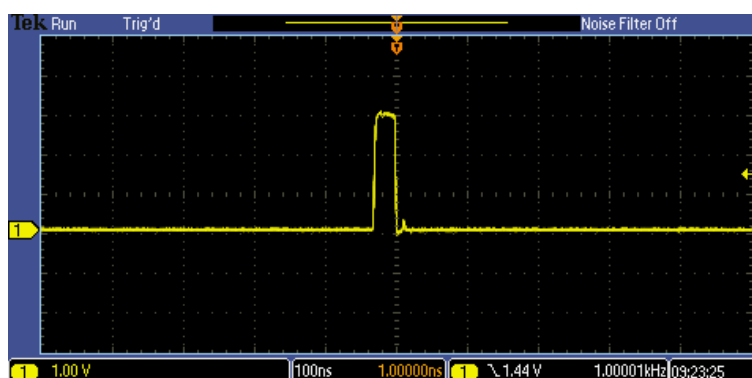

Fig. 10.21: A5202/DT5202 internal periodic signal at the oscilloscope.
9. Press the Apply button. A LVTTTL signal having the same frequency of the A5202/DT5202 internal periodic signal should be visualized at the oscilloscope (see Fig. 10.21).